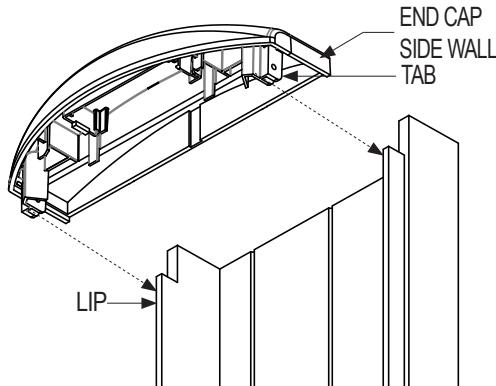

Figure 4.5 End Cap Alignment
- Match and align the Back Box Lips to the End Cap Tabs, End Cap Side Walls. (Figure 4.5)